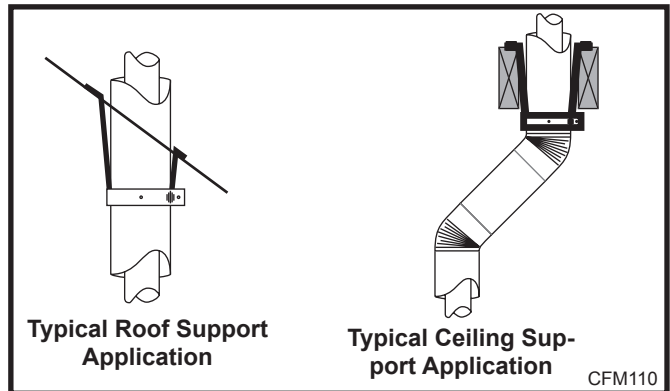
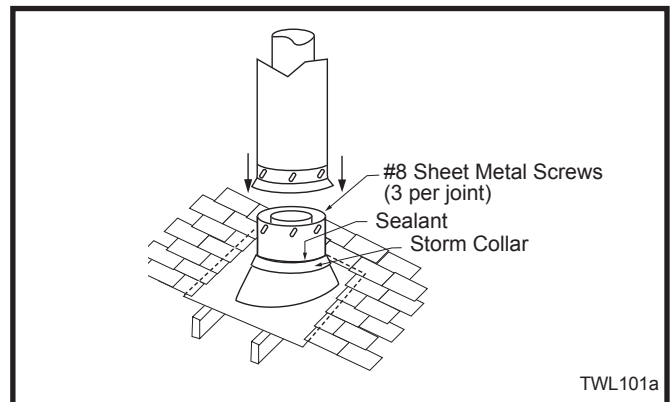

Fig. 33 Roof and ceiling supports.
Fig. 34 Roof flashing.
- 7DVCS must be used to support offsets. (Fig. 33)
7. Install roof support (Fig. 33) and roof flashing making sure upper flange of flashing is below the shingles. (Fig. 34)
8. Install appropriate pipe sections until the venting is above the flashing. (Fig. 34)
The enlarged ends of the vent section always face downward. (Fig. 34)